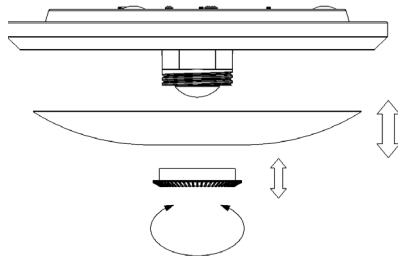

Figure 1
- Unscrew the plastic screw nut and remove the PC lampshade.(refer to figure1)